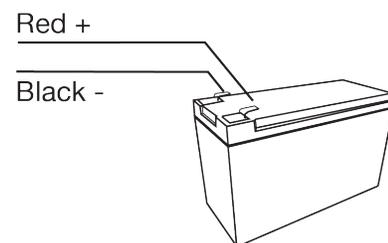

Fig. 5
5. Install batteries into the cabinet and complete the appropriate battery connections (Fig. 5).